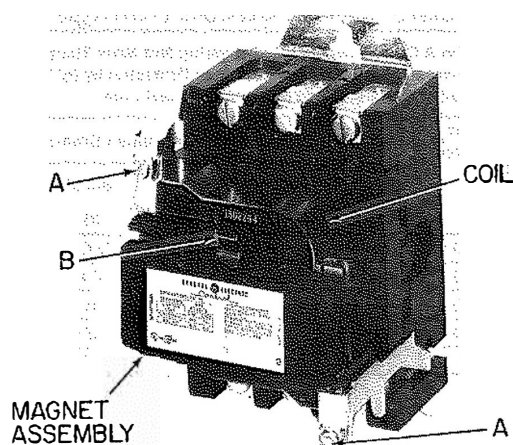

Figure 1. CR360L 60 ampere lighting contactor.
1. Press against coil and pull up and out on coil retainers (A—Figure 1).
2. pull one end of spring clip (B—Figure 1) forward and slide out of slot.